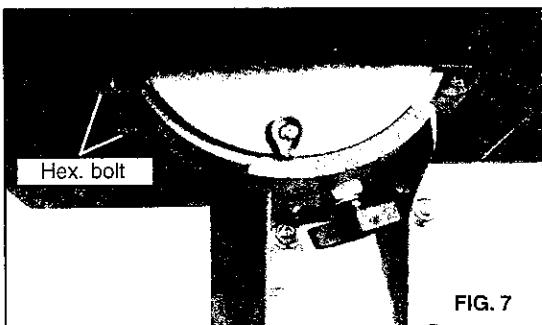

FIG. 7
a. Loosen the four hex. bolts mounting the table to the upper table trunnion. (See Fig. 7)